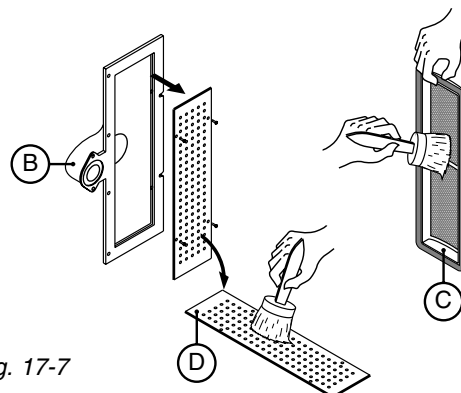

fig. 17-7
- Distributor D is fixed to conveyor B; if necessary, distributor can be removed and cleaned (fig. 17-7);
- With the aid of a brush, clean burner as shown in fig. 17-7; take care not to damage outside of burner.